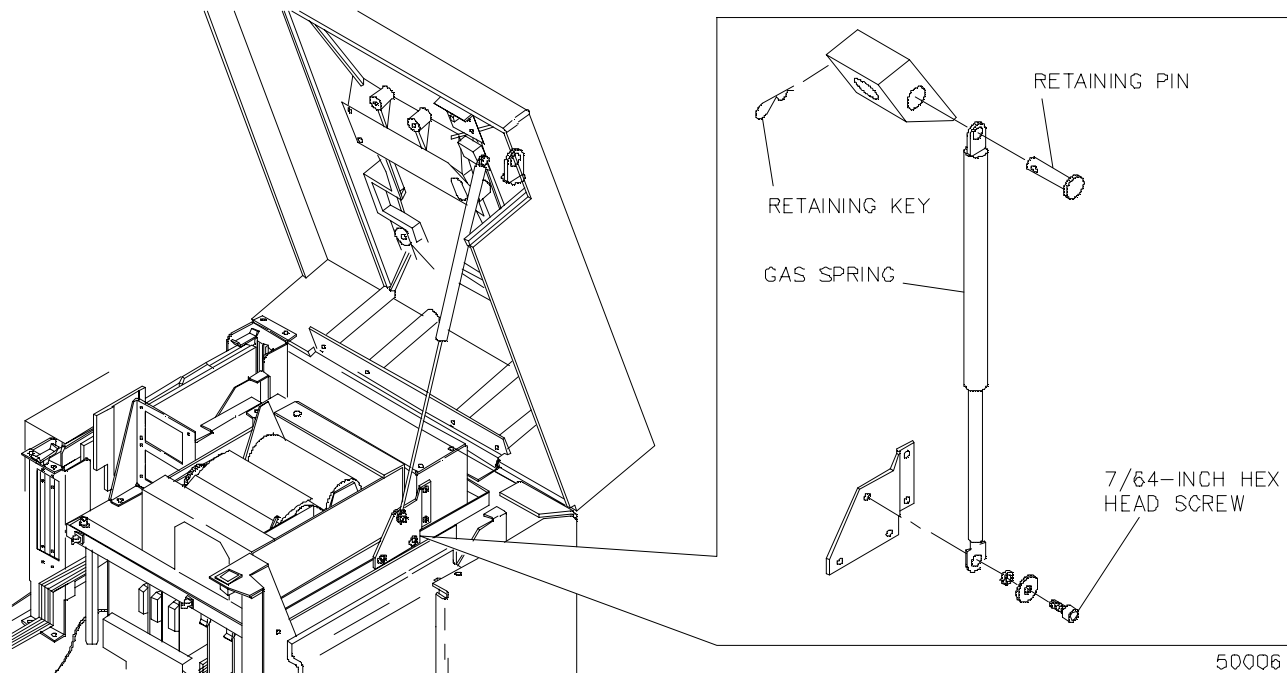

Figure 4-6. Gas Spring, Top Right Cover
2. Remove retaining key and pin at top of gas spring while holding up cover (**Figure 4-6**).